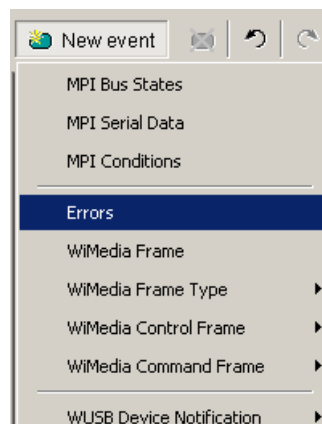

Figure 7.9 Selecting Event Type
Step 2 Select an event (Figure 7.9).